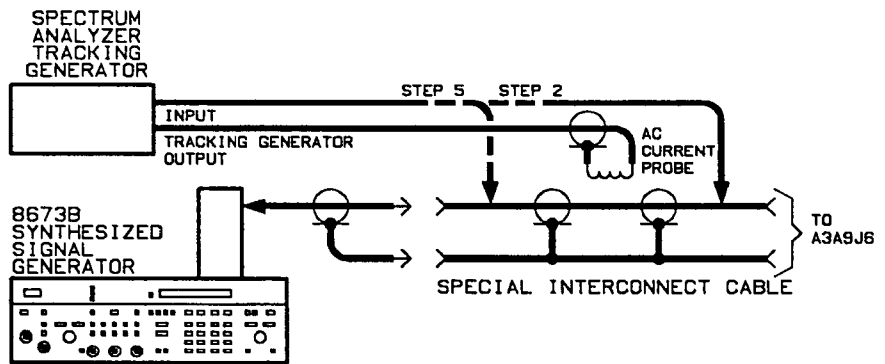

Figure 5-14. YTO Loop Phase Detector Adjustment Test Setup
2. Connect the equipment as shown in figure 5-14. The special interconnect cable is inserted between A3W16 (gray cable) and A3A9J6 (YTO TUNE 1).